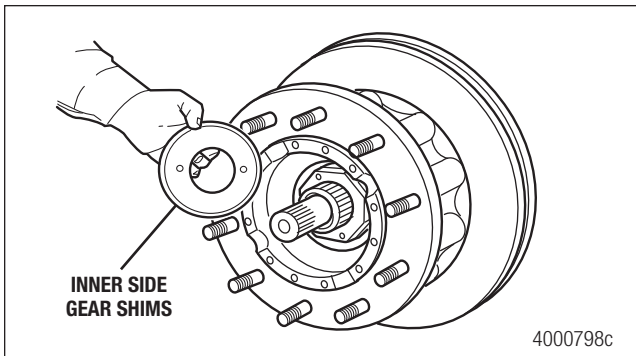

Figure 6.4
10. Remove the inner side gear and shims. Figure 6.4.